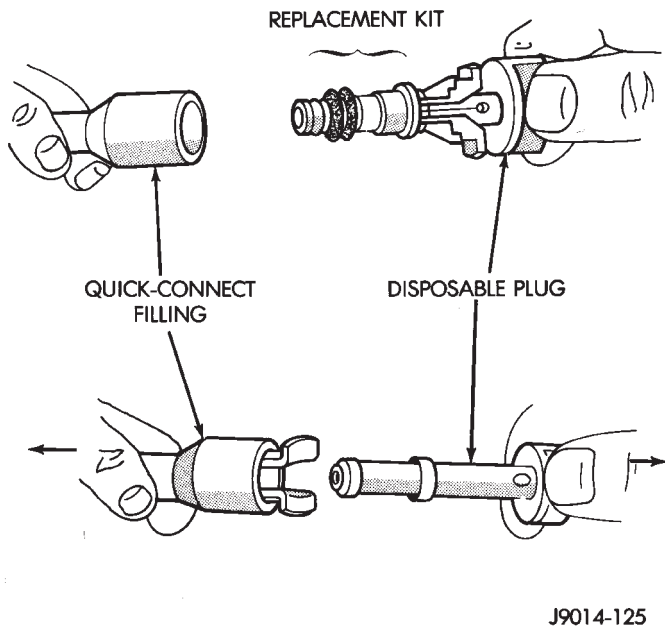

Fig. 21 Repair Kit Installation
(1) Push the kit/disposable plug assembly into the fitting until an audible click sound is heard (Fig. 21).